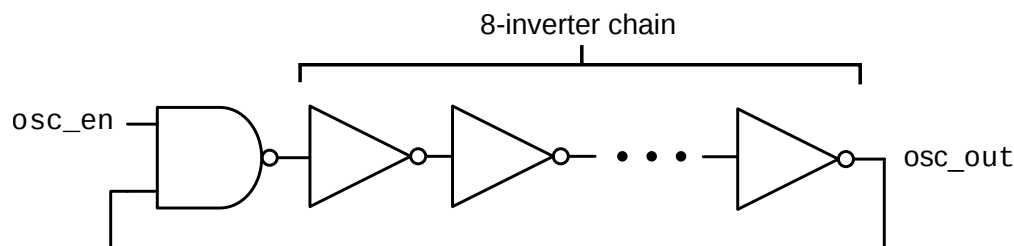

Figure 3
- a. Create the schematic for the ring oscillator design in Figure 3, named `ring_osc`. For the inverter and NAND, use the `INVD1` cell from CAD 2 (copy over from CAD 2 to keep the design files between CAD's independent), and the `NAND2` from Parts 1 and 2 of this CAD.
- b. Collect the measurements in Table 2 for the ring oscillator schematic. The average power consumption should be measured over the 4ns immediately after `osc_en` transitions to logic '1'. The power measurement should be taken over the entirety of Figure 3 (i.e. it should include the sum of power consumed by both the NAND gate and all 8 inverters).